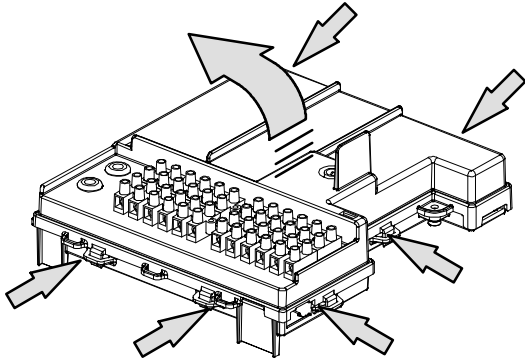

Fig. 2.9
- Free the hooks placed on the three sides indicated and rotate the lid towards left (Fig. 2.9).